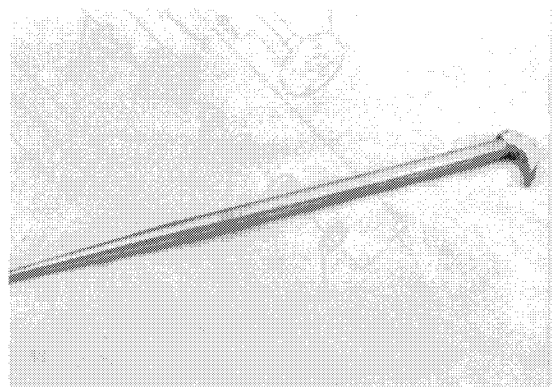
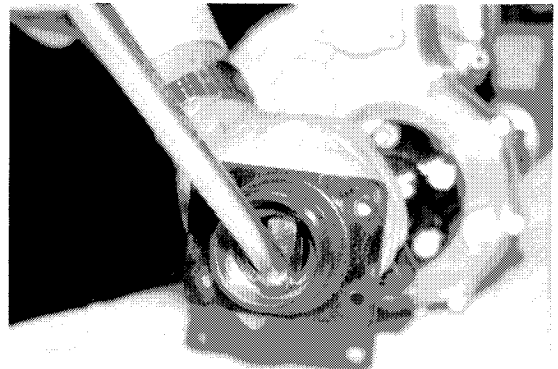

Figure 6-3
Figure 6-4
6. Remove oil seal using 40 centimeter (16 inch) rolling wedge bar (Figure 6-3) by inserting underneath seal lip and prying seal out (Figure 6-4).